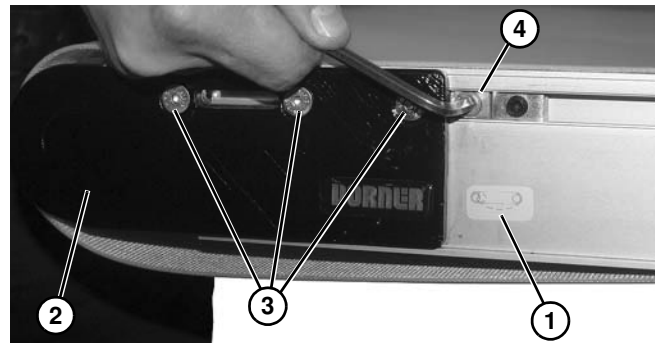

Figure 59
2. For standard end drive conveyors, on tension end of the conveyor, identified with  a label (**Figure 59, item 1**), adjust head plate assembly (**Figure 59, item 2**):
- a. On both sides of conveyor, loosen fastening screws (**Figure 59, item 3**).
- b. On both sides of conveyor, adjust cam tracking assemblies (**Figure 59, item 4**) (if equipped) to adjust head plate assembly.
- After adjusting proper tensioning, tighten fastening screws (**Figure 58, item 3**) or (**Figure 59, item 3**) on both sides of conveyor to 60 in-lb (7 Nm).